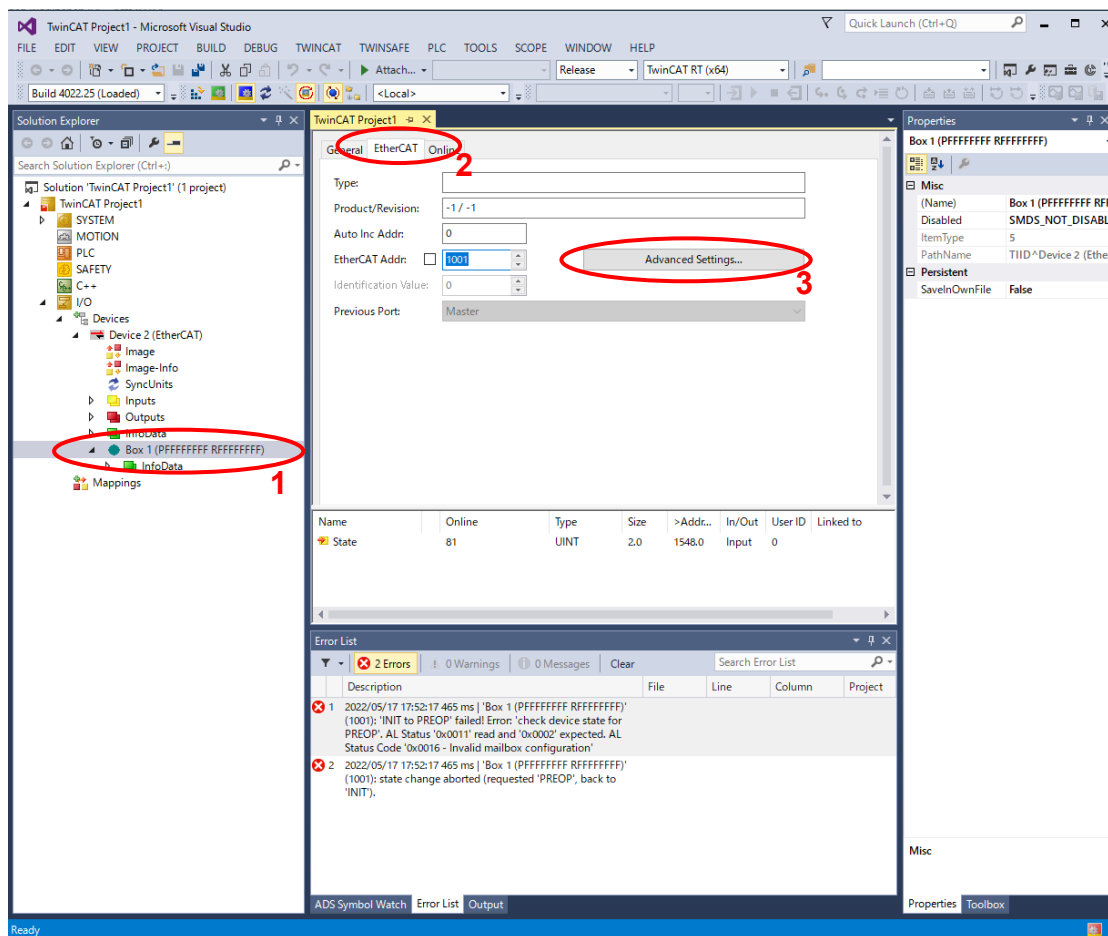

Figure 6-5 Updating the EEPROM
To update the EEPROM, double-click on Box 1 (1), select the “EtherCAT” tab (2) and click the “Advanced settings” button (3) as illustrated in Figure 6-5.